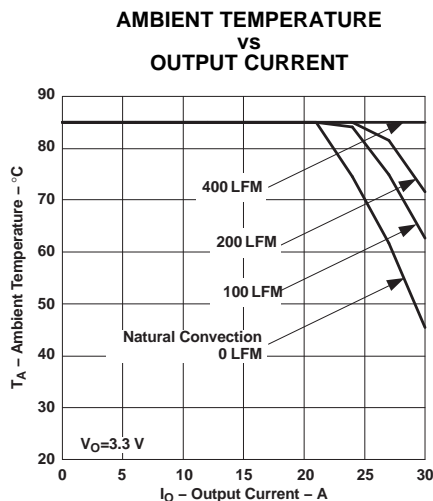
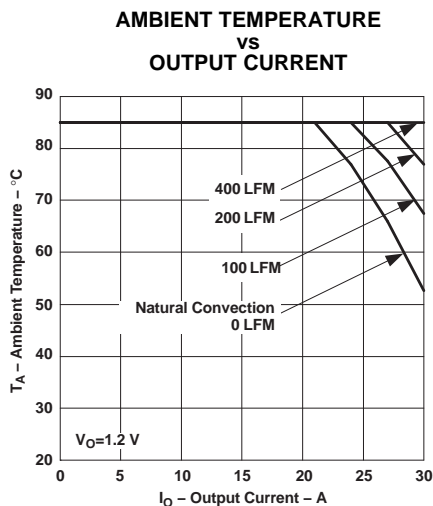

Figure 4.
Figure 5.
- (2) The temperature derating curves represent the conditions at which internal components are at or below the manufacturer's maximum operating temperatures. Derating limits apply to modules soldered directly to a 100 mm × 100 mm double-sided PCB with 2 oz. copper. Applies to Figure 4 and Figure 5.